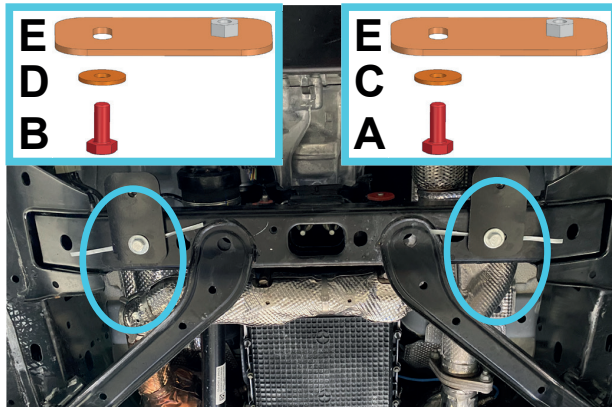

Fig. 9
6. Secure brackets (item E) to the previously installed insert nuts M10 (item F) from step 3 using M10x35 bolts (item A) and M10 washers (item C) as shown in fig.9. If there is a factory threaded hole on the passenger side use M12x30 bolt (item B) with washer M12 (item D). Ensure welded nuts on the brackets are facing up.